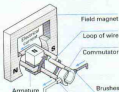

Fig. 2
- 15 In a simple electric motor, like the one shown in Fig. 2, a piece of iron with loops of wire round it, called an armature, is placed between the north and south poles of a stationary magnet, known as the field magnet. When electricity flows around the armature wire, the iron becomes an electromagnet.